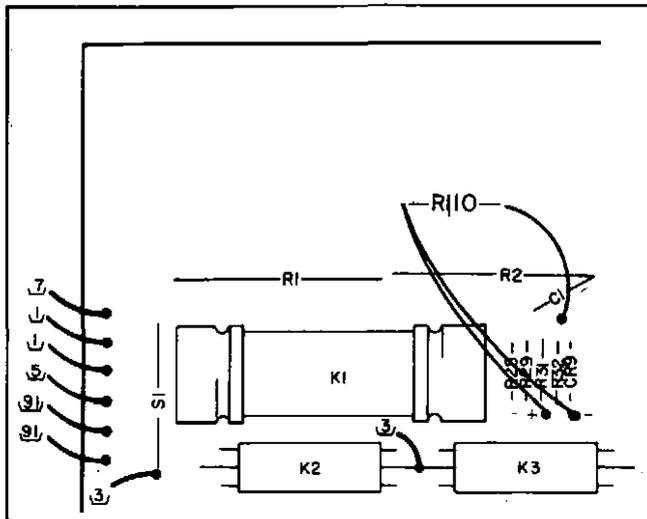

Figure 5-2. 1 Volt Zero Adjustment.
k. Remove the top covers and note the value of A10R106 – if there is an R110 installed (see Figure 5-2). Refer to Table 5-1 and record the Offset Voltage that corresponds to the current value of A10R110: _____. (If there is no A10R110, record 0.000000 V.) If R110 is connected to the terminal marked “+”, the polarity of the Offset Voltage is *negative*; if R110 is connected to the terminal marked “-”, the polarity of the offset is *positive*.
n. Remove the original A10R110 (Figure 5-2). If the total offset (Step l) is positive, connect the new R110 between the unmarked terminal and the terminal marked “-”; if the total offset is negative, connect it between the unmarked terminal and the terminal marked “+”.